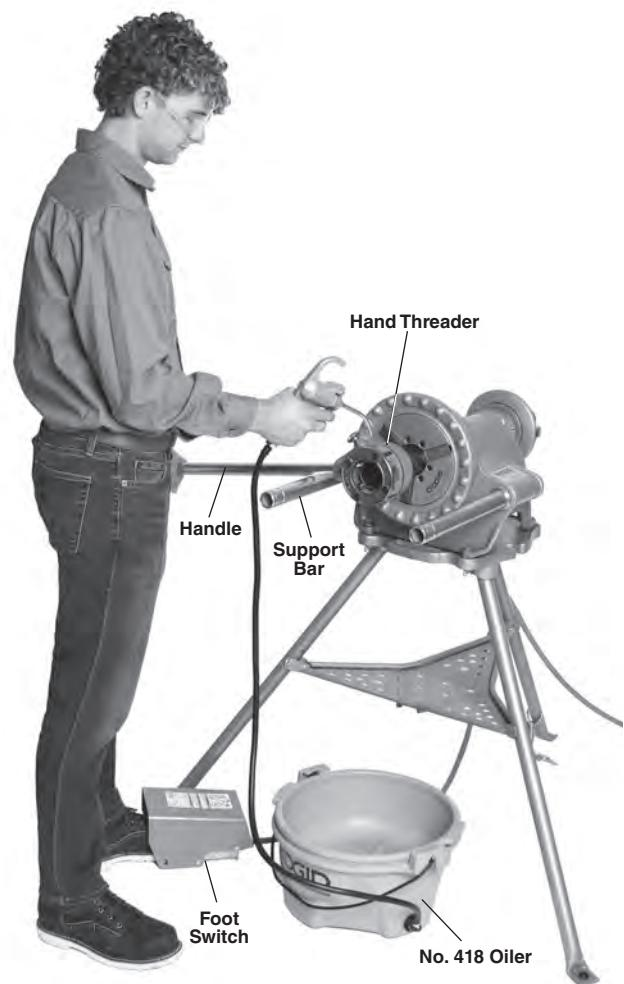

**Figure 17 – Pushing Hand Threader onto Pipe to Engage Dies**
Place the die head over end of pipe as shown in *Figure 17*. Rest the threader handle on switch side support bar. Hold the end of threader handle with left hand. To avoid pinch point injuries, do not place hand or fingers between the threader handle and support bar. Keep handle in contact with the support bar. Apply oil to end of pipe and dies.
2. With the palm of right hand, push against die head cover plate, holding die head against end of pipe (*Figure 17*). Depress the foot switch. Do not wear gloves, jewelry or use a rag while pushing on the cover plate – this increases the risk of entanglement and injury. Keep hand away from rotating pipe. Once the dies engage, threads will be cut as the dies pull themselves onto end of pipe.